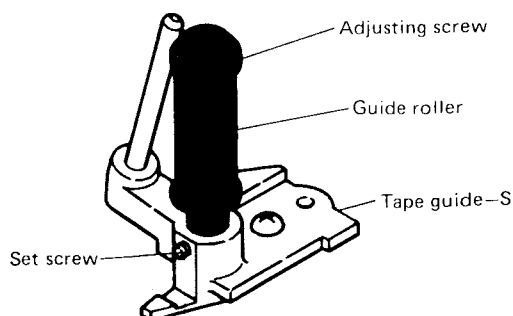

Fig. 4-18
- 3) Rotate the supply guide roller so the leading edge (Drum meeting point) of FM waveform is flat as A → B, as shown in Fig. 4-18.